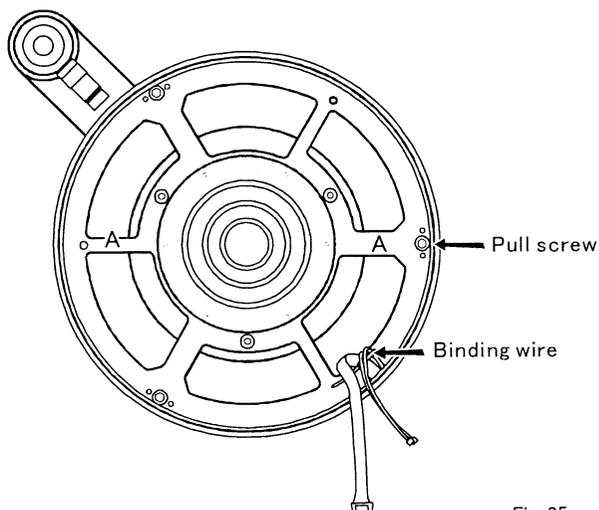

Fig. 25
2. Cable and wiring are attached on the cell by biding wire. Remove this biding wire or cut it out to release the cell from the bottom ring. Refer to the Fig. 25. Do not lift up the cell with cable and wiring. Otherwise the primary might touch the inside and possibly be damaged.
4. Hold the rib (A) and lift up the cell slowly with care not touching it on the inside. Refer to the Fig.25.